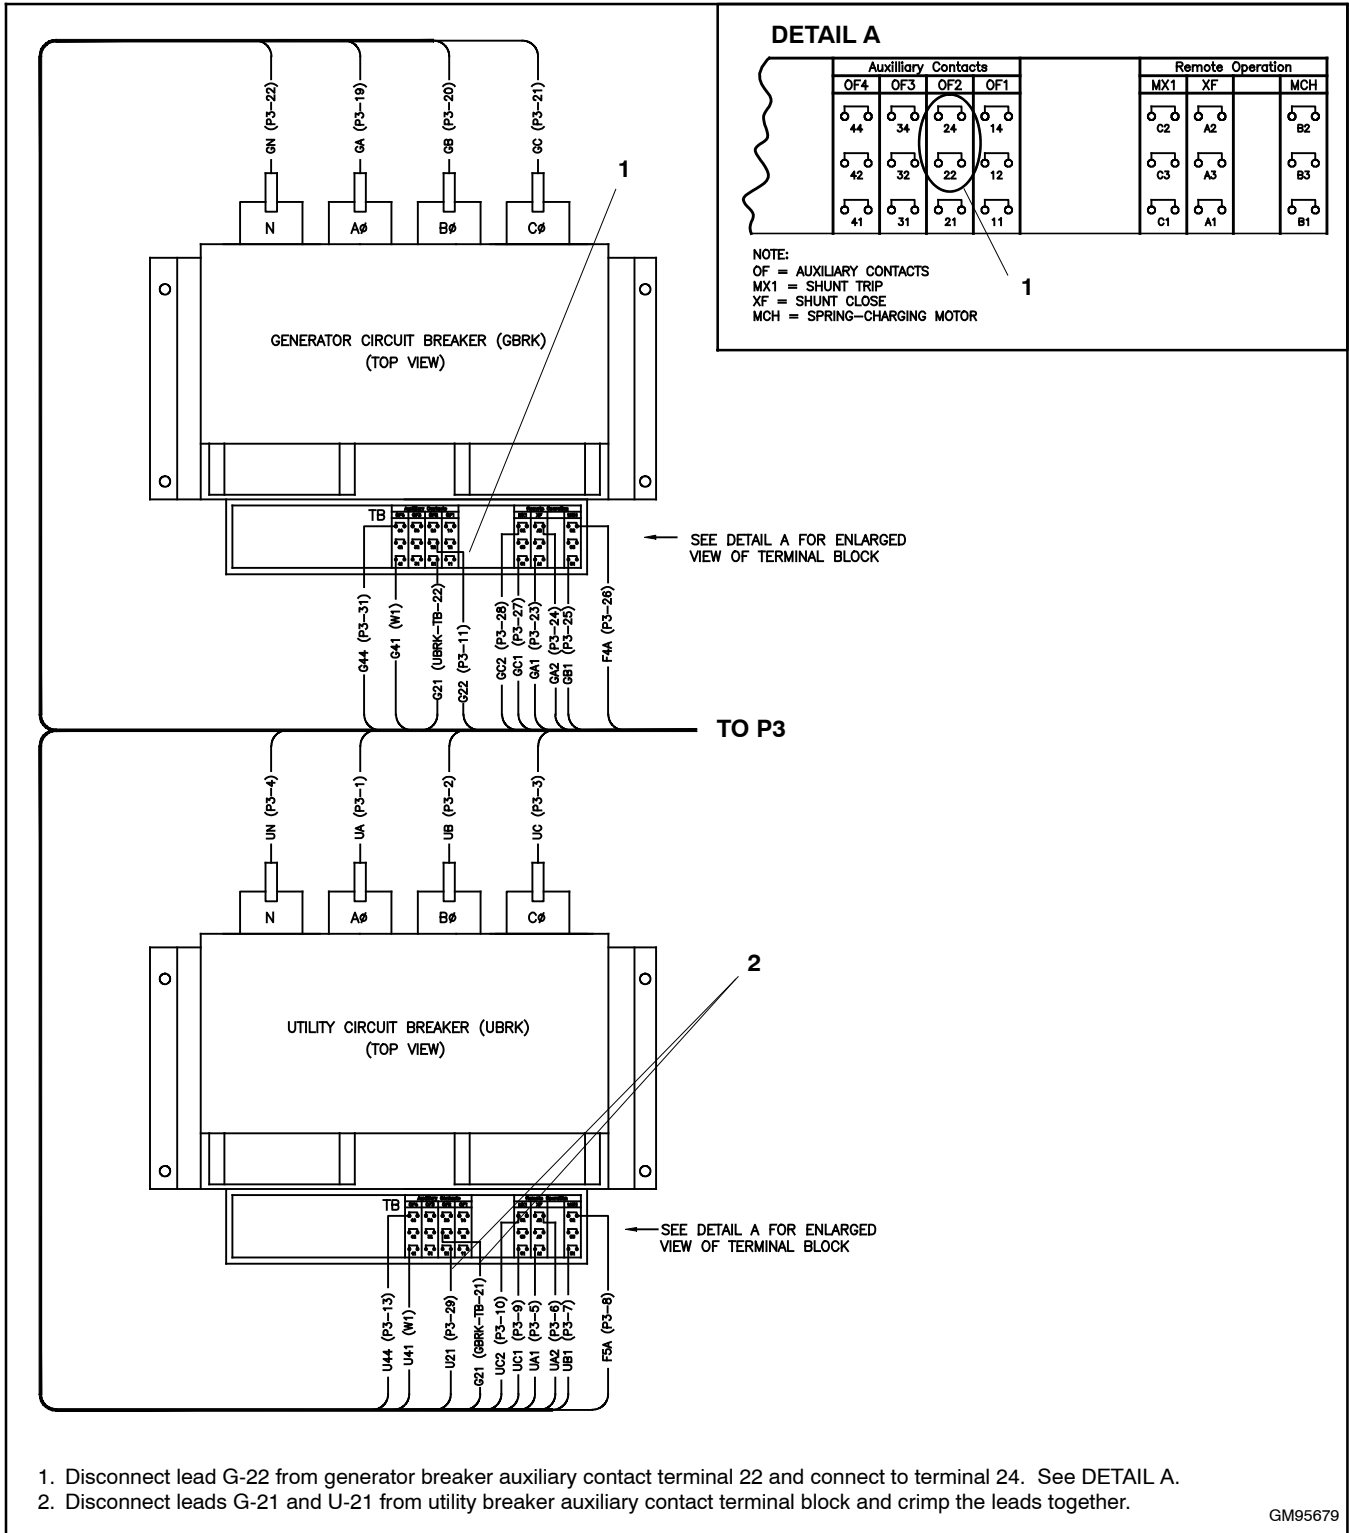

Figure 7-8 Reconnection of Leads G21, G22, and U21, ICCB Models
1. At the generator (emergency) circuit breaker inside the transfer switch, find lead G-22, which is connected to terminal 22 on the circuit breaker auxiliary contact terminal block. See Figure 7-8. Disconnect lead G-22 and reconnect it to terminal 24.